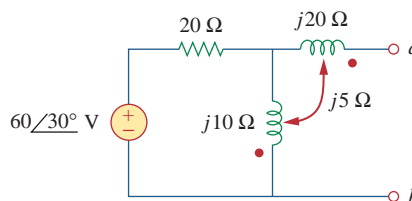

Figure 13.84
13.15 Find the Norton equivalent for the circuit in Fig. 13.84 at terminals $a-b$.